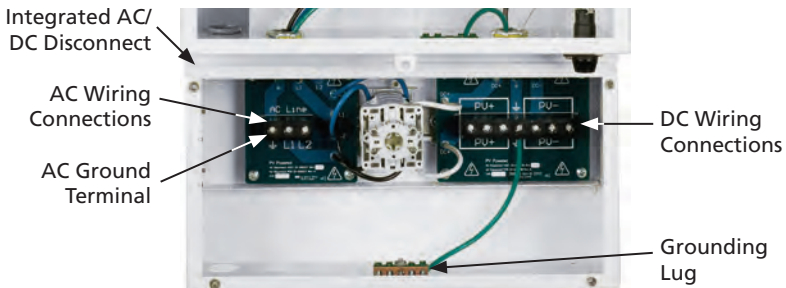

Figure 4-6 AC and PV Grounding in Integrated AC/DC Disconnect Cabinet
- Do not tie the GEC to the PV array positive or negative. This would defeat the PV ground fault interrupt protection circuit. Refer to Figure 4-6 for illustrated information.
- For the GFI circuit to function as designed, the GEC must be connected only at the ground terminals detailed in Figure 4-6.